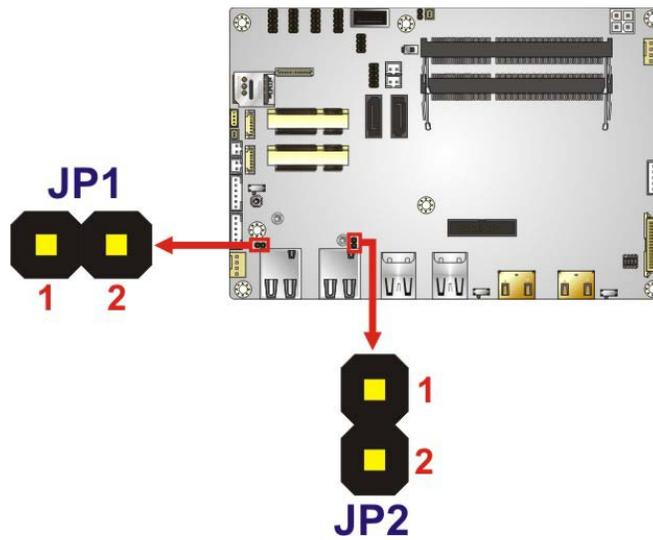

Figure 4-13: LAN LED Connector Locations
- CN Location: See **Figure 4-13**